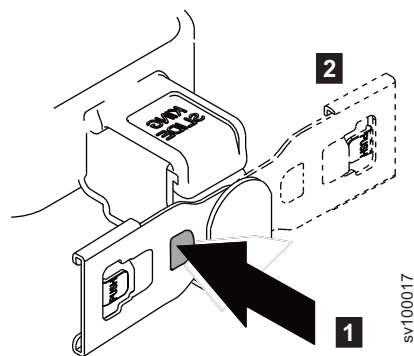

Figure 16. Reversing the orientation of the assembly
- a. Press the button marked **PUSH** in Figure 16 on page 24.